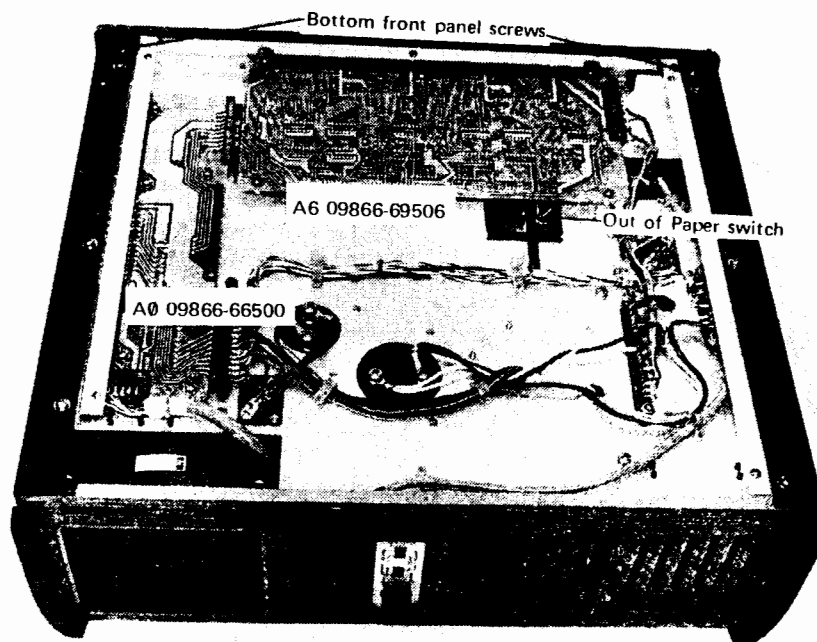

Figure 4-3. The Bottom Assemblies
4. Remove the A3, A4, and A5 PC assemblies. Then, disconnect the connector to the mother board (XA0). See Figure 4-3.